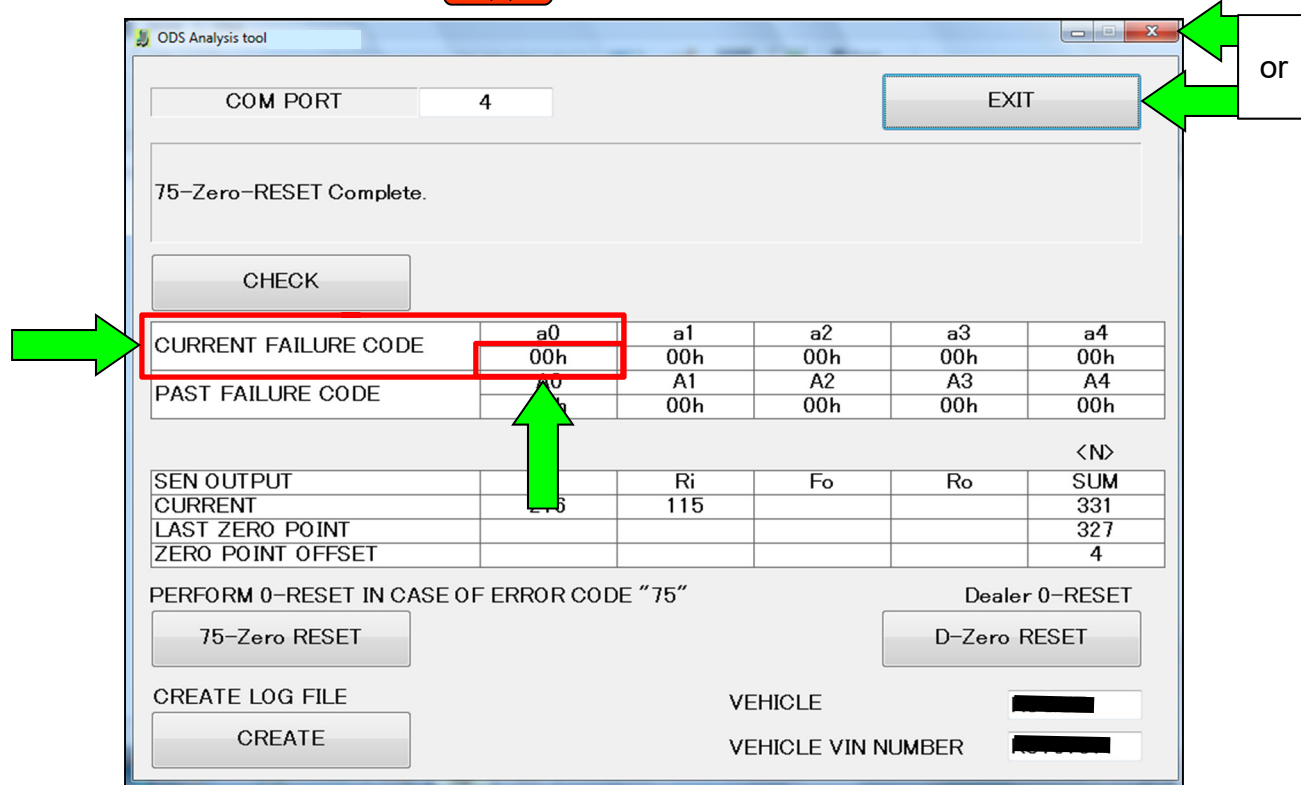

Figure 10
17. When the screen in Figure 10 displays, the 75-zero reset process is complete.
18. Select either **EXIT** or the  in the upper right corner (see Figure 10).